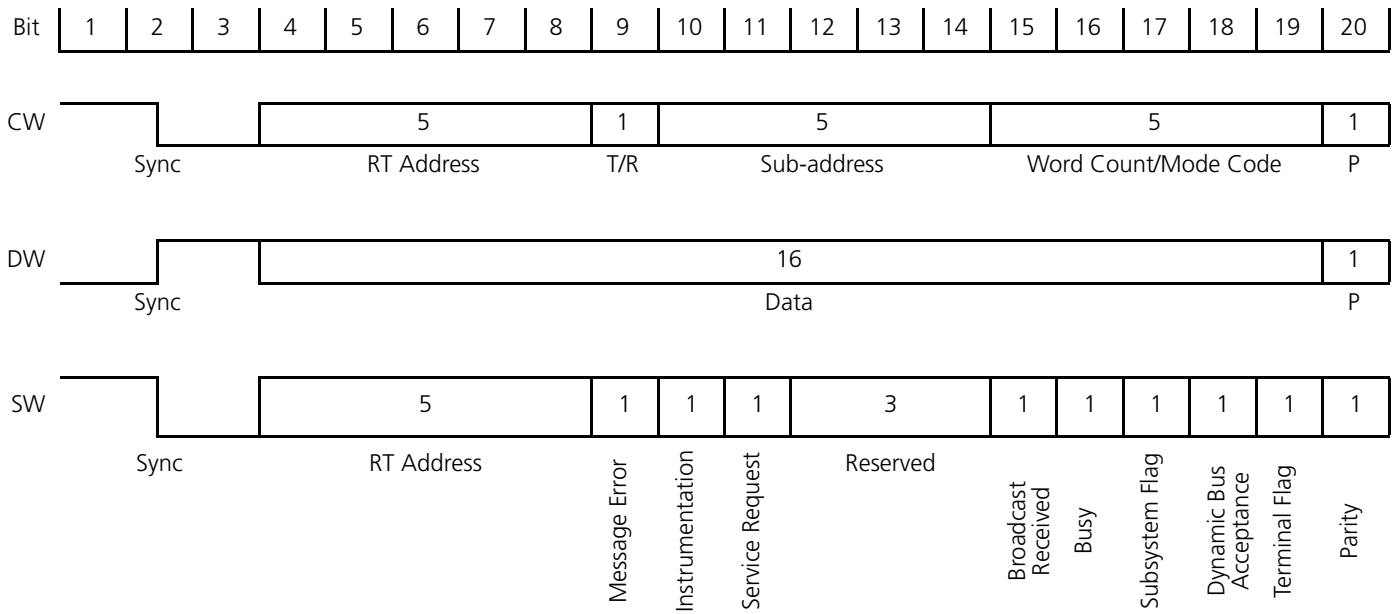

Figure 5 • 1553B Word Formats
There are only three types of words in a 1553B message: a command word (CW), a data word (DW), and a status word (SW). Each 20-bit word consists of a 3-bit sync pattern, 16 bits of data, and a parity bit (Figure 5).